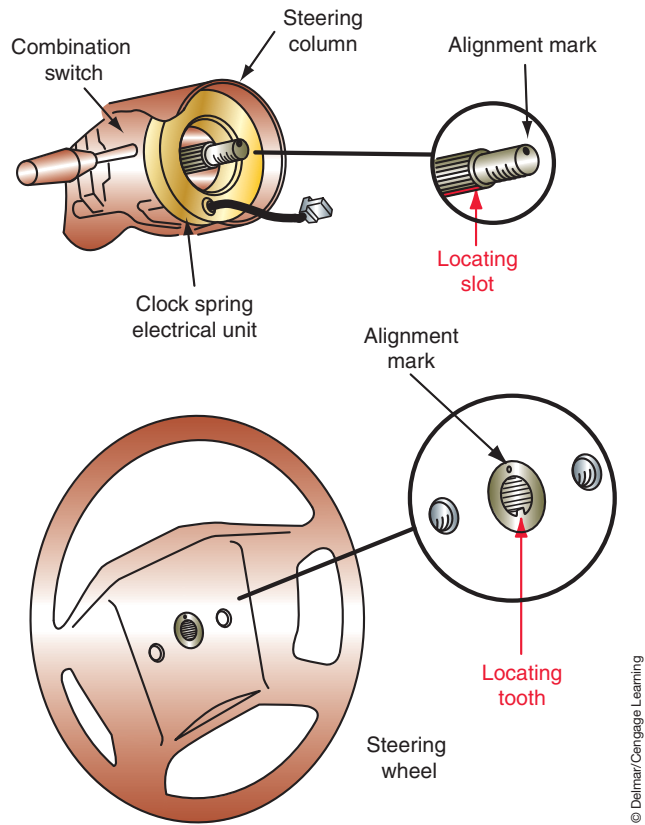

FIGURE 8-34 Steering wheel attachment.
5. If equipped, remove the steering shaft nut and horn collar (Figure 8-34).